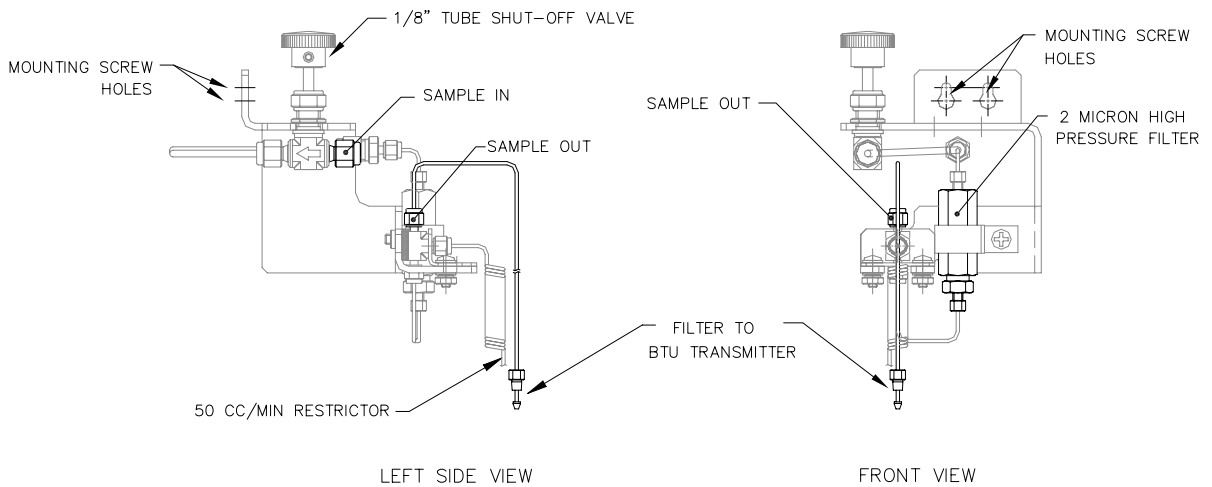

Figure 26 Type 1 Sample Conditioning Module
Sample Conditioning Module installation will vary depending upon how many sample streams are used. The Btu 8000/8100 will handle up to 3 sample streams. Five types of conditioning modules are available for configuration. Each modules appearance will vary, they will install onto the mounting bracket in the same manner, and the locations are interchangeable. For this reason, the following instructions will be somewhat generic (see Figures 26 through 30).
- 1) Locate sample input fitting on Sample Conditioning Module (see Figures 26–30).